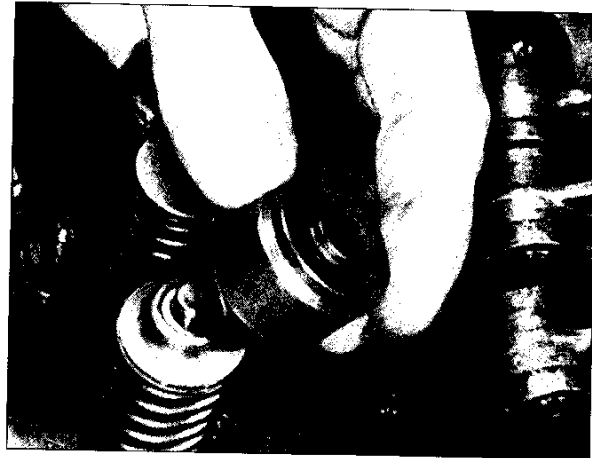

FIG. 1.6.19
2. Install Jacobs valve stem caps on right-hand exhaust valves (one per cylinder) (Fig. 1.6.19). Press caps firmly over valve springs. Hexagon cover studs must be removed if located near this valve.